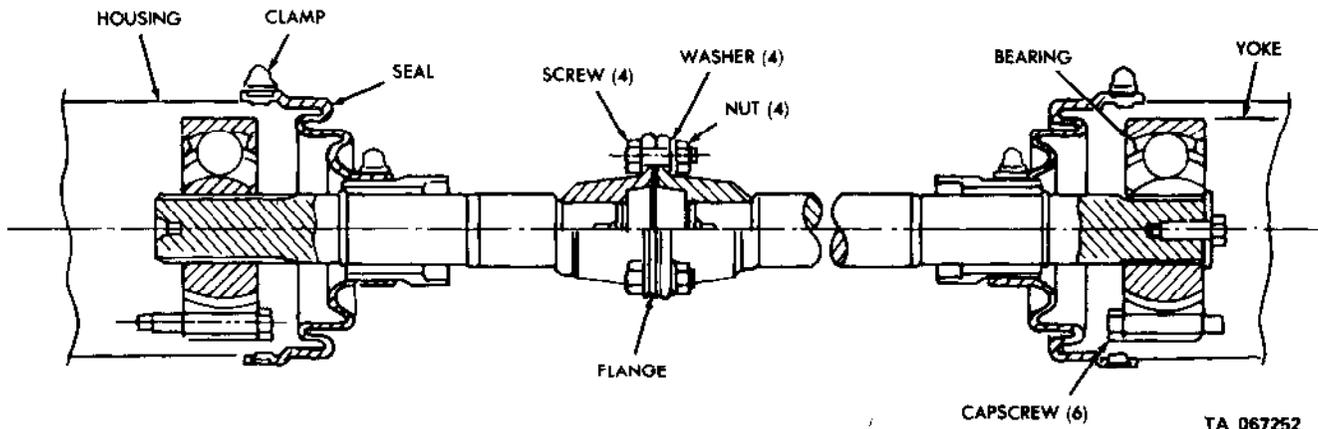

Figure 2-261.1. Two-section shaft replacement.
(6) Connect the power takeoff-to-power divider propeller shaft from the drive shaft yoke at the front of the power divider.
d. Two Section Shaft Removal (fig. 2-261.1).
(1) Remove four bolts from flanged disconnect of propeller shaft. Allow each half of shaft to swing down for removal clearance.
(2) Remove universal bearing dust seal from housing.
(3) Remove six screws securing universal bearing to flange at each end of the propeller shaft.
e. Two Section Shaft Installation (fig. 2-261.1).
(1) Position propeller shaft halves into seal housings.
(2) Install six screws securing universal bearing to flange at each end of the propeller shaft.
(3) Position universal bearing dust seal on seal housing and secure with clamps.
(4) Join propeller shaft halves at flanged disconnect and tighten four bolts.